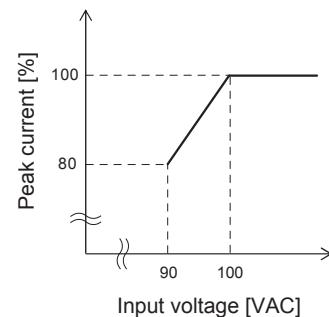

Fig.8.2 Peak current derating curve depending on input voltage
- $I_p \leq \text{Rated peak current[A]}$ Refer to Fig 8.2